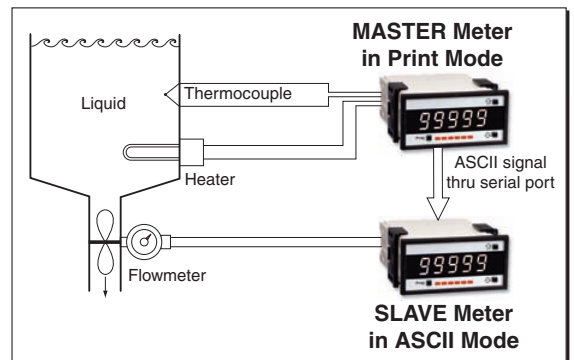

Figure 16 – Controlling a Process with Two Meters
- Combining two meters to control a process (see Figure 16).
To overcome this the two Tiger meters were connected through their serial ports and the temperature data sent to the flow rate meter (slave). The temperature data meter (master) converts the data to ASCII format. The flow rate meter then uses the temperature and the flow rate data to compensate for the differences in the liquid temperature. This improves the accuracy of the system to the desired level (see Figure 16).